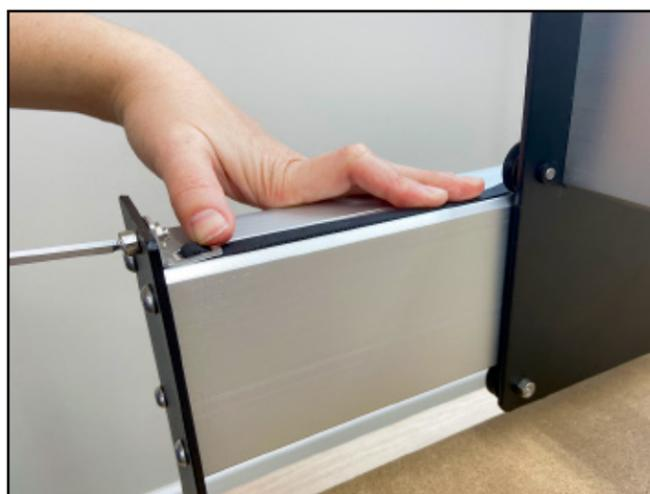

Figure 5-12
- Set the belt clip on top of the Y1-rail next to the front endplate. The belt should lay flat, teeth down, and extend along the Y1-rail towards the Y1-carriage. Ensure the teeth of the bottom 2 inches of belt interlock with the top. See **Figure 5-12**.
- Use the 4mm hex key and one (1) M5×10mm socket head cap screw to attach the belt clip to the front endplate. Insert the screw from the **FRONT** and tighten. See **Figure 5-12**.